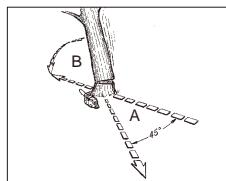

Fig. 11A
WARNING: A retreat path (A) should be planned and cleared as necessary before cuts are started. The retreat path should extend back and diagonally to the rear of the expected line of fall, as illustrated in Fig.11A.
⚠️WARNING: As the felling cut gets close to the hinge, the tree should begin to fall. When tree begins to fall, remove saw from cut, stop engine, put chain saw down, and leave area along retreat path (Fig.11A).